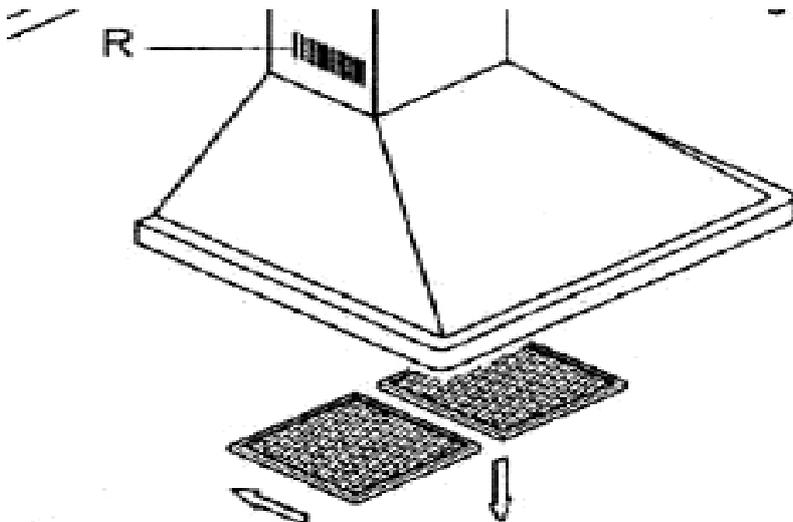

Fig. 2
- ✓ Remove the metal anti-grease filters (see Figure 2 below) and find the old bulb located in the light fixture up inside the exposed canopy. Change the incandescent bulb using only olive-shaped spares with an E14 coupling, max. 40W.
- 1) Press the handle of the metal grease filter towards the rear part of the unit until it is released from the front housing, and remove it by pressing downwards (Fig. 2 - above).**